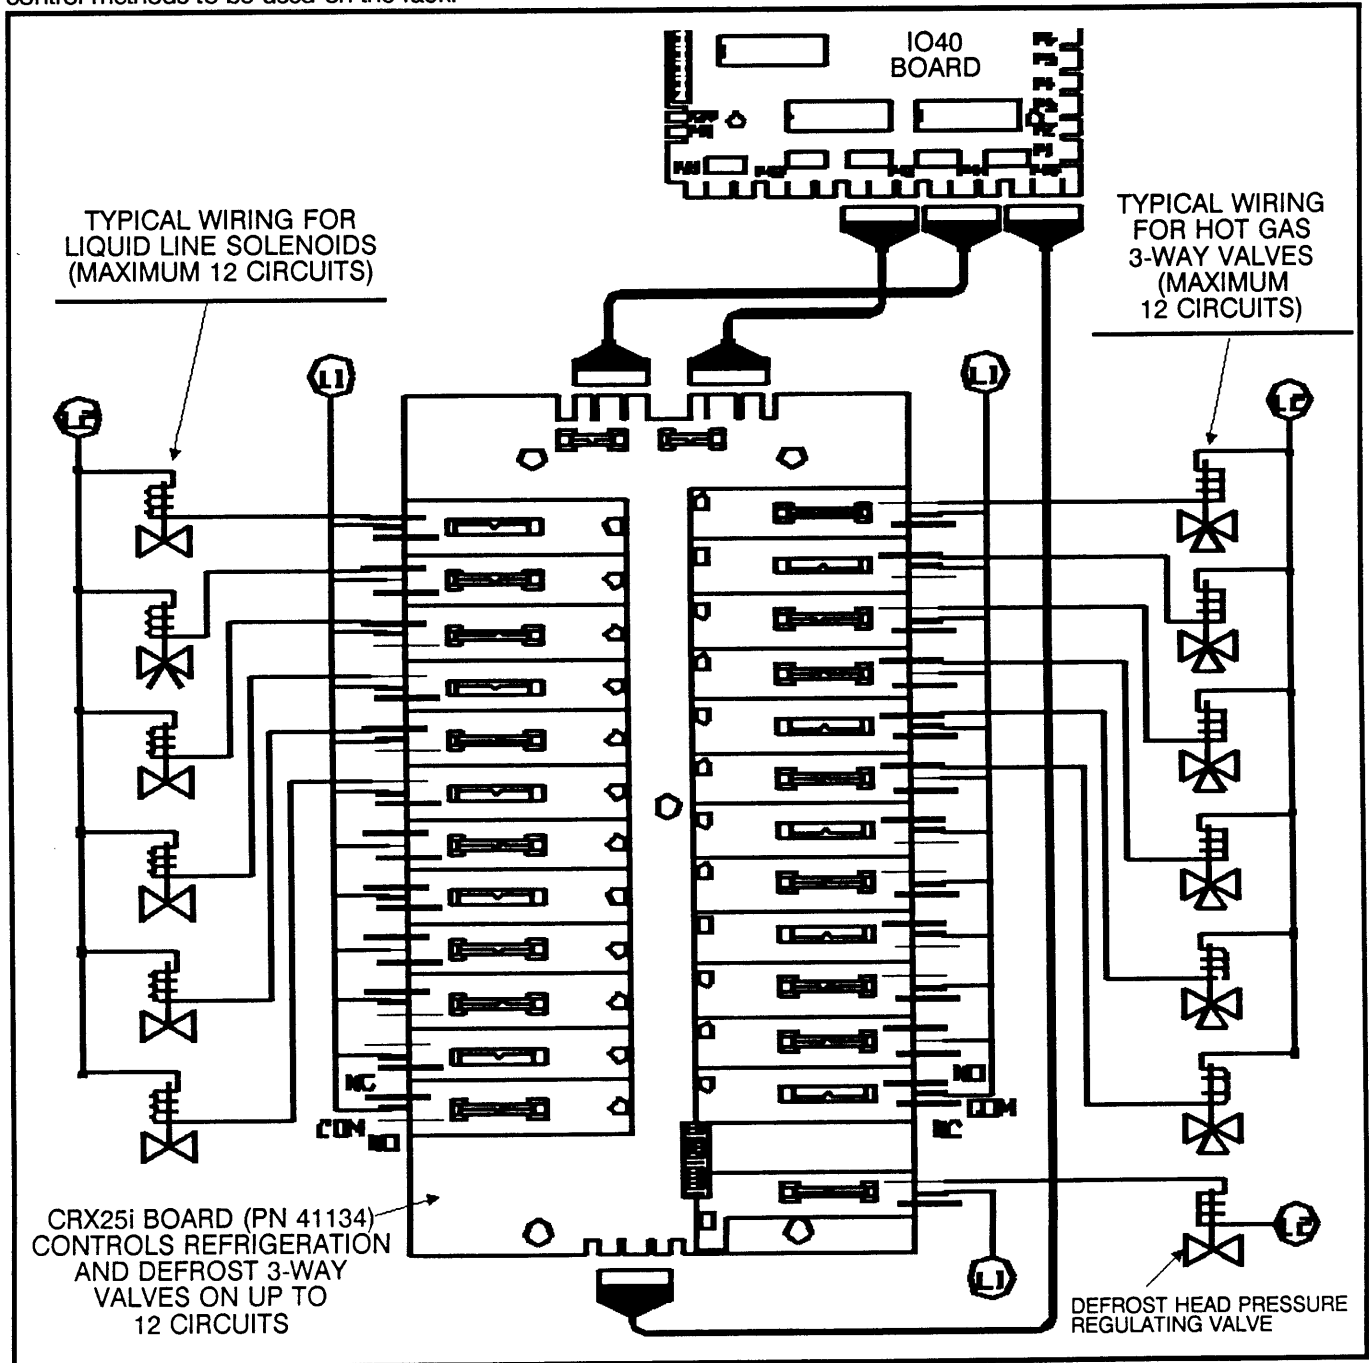

Figure C-14: Refrigeration and Defrost Wiring
A typical method for controlling liquid line solenoids and defrost valves is using the CRX25i Relay Board as shown in Figure C-14. If the XPRT4 is being installed as a retrofit, Altech recommends removing the existing defrost clock to preclude it from interfering with XPRT4 operation. The CRX25 Relay Board can be used in place of the CRX25i if circuit isolation is unnecessary. Other types of refrigeration control can be used instead of liquid line solenoids, such as pilot operated EPR's or suction solenoids. The actual wiring to the CRX25i or CRX25 Board will need to be adjusted to match the control methods to be used on the rack.
- The XPRT4 to CRX25i cables must be installed as shown in Figure C-14 for the circuits to be controlled correctly. The IO40 outputs have the following assignments: P43: Defrost Circuits 1 – 8, P44: Refrigeration Control Circuits 1 – 8 and P45: Defrost and Refrigeration Control Circuits 9 – 12 (See Table C-1).